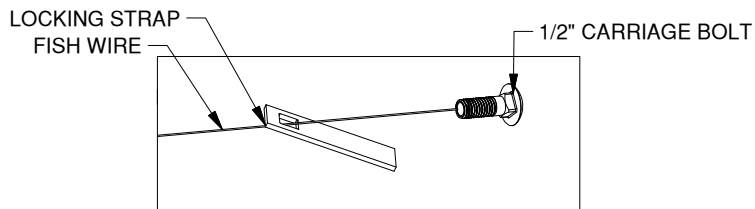

Figure B2
**3. Prepare hardware.** Thread the locking strap on the fish wire and attach the coil end of the fish wire to the carriage bolt, as shown in Figure B2. To keep the hardware from getting hung up inside the frame, the locking strap and the bolt need to go through the frame separated, as shown, and not with the bolt through the square hole in the strap.